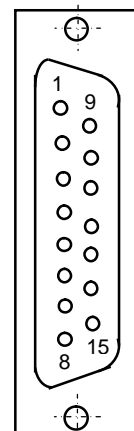

Figure 5.11
5.3.3.4 The DAC device channels are wired to connector "5" on the front panel of the **CPU ECDA** module. The connector types are given in Table 3.2. The arrangement of connector pins is shown in Figure 5.11. The **DAC** channel signals are presented in Table 5.10.
5.3.5.4 The tactile sensor channel signals are wired to connector "5" on the front panel of the **CPU ECDA** module. The connector types are presented in Table 3.2. The arrangement of connector pins is shown in Figure 5.11. The distribution of tactile sensor channel signals "TS+" and "TS-" between the pins of connector "5" is indicated in Table 5.10.